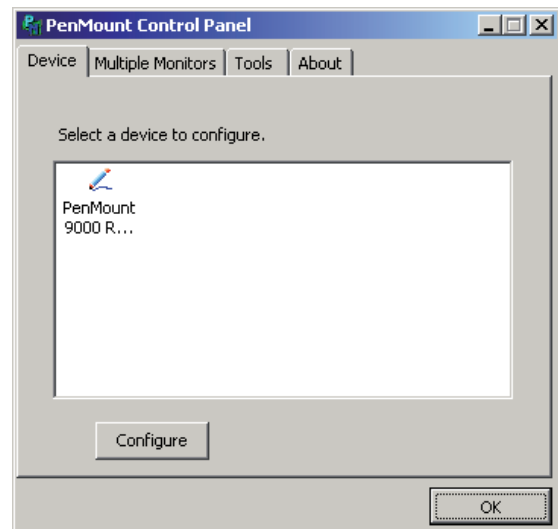

Figure 70
5. A touch screen calibration program will open (Figure 70).
6. Press the “Configure” button (Figure 70).